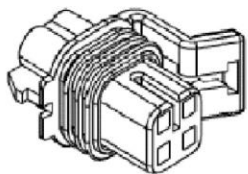

Figure 1: Metri Pack 150 Connector
4. Remove the 4 pin Metri Pack 150 (see Figure 1) electrical connector from the vehicle's body harness.